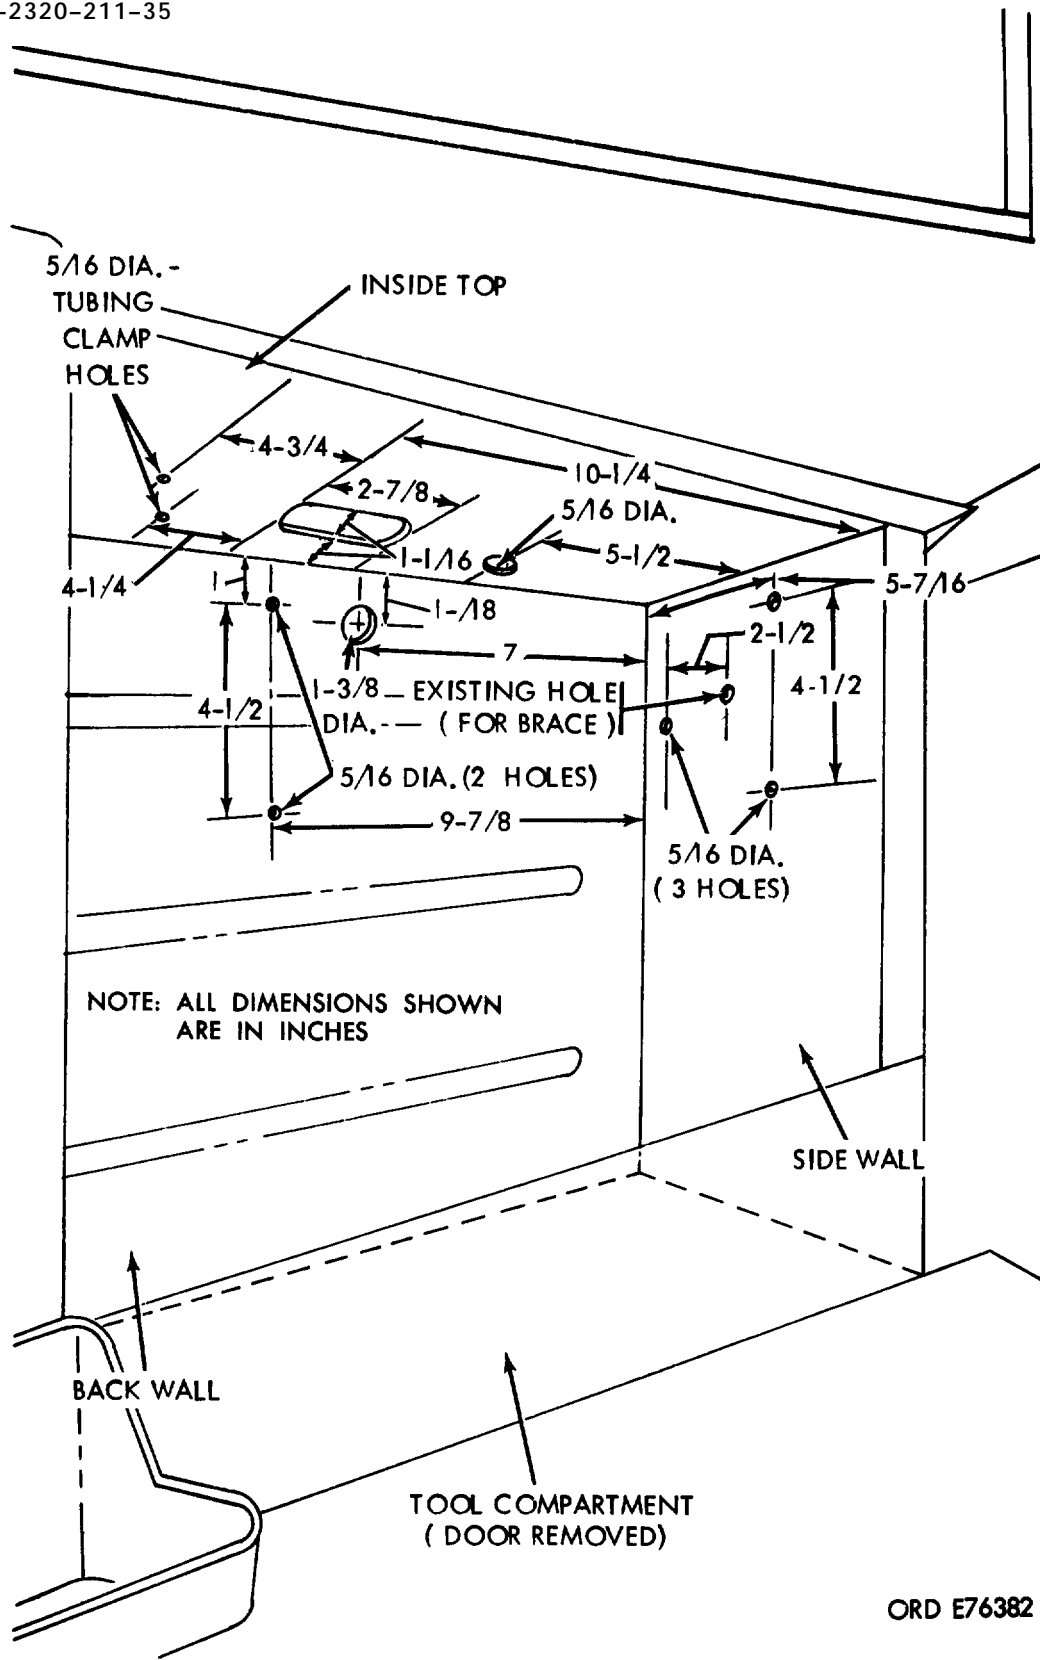

Figure 675. Fuel pump mounting and tubing layout.
- (1) Unscrew four hinge screws retaining tool compartment door (under the vehicle left door) and remove door.
- (2) Lay out location of two holes for pump shield, on back wall of compartment (Figure 675).
- (3) Punch and drill two 5/16 dia. holes located in (1) above. Prime and paint drilled holes.
- (4) Locate one 1-3/8 dia. tubing hole (for pump to coolant heater tube) in the same rear wall.
- (5) Using a Greenlee punch or hole saw, cut out 1-3/8 dia. hole located in (4) above. Prime and paint hole edge, and insert grommet MS 35489-75.
- (6) Locate three holes in tool compartment side wall as indicated in figure 675.
- (7) Center punch and drill three 5/16 dia. holes located in (6) above.
- (8) Locate one hole for pump electrical lead in top of tool box as indicated in figure 675.
- (9) Center punch and drill 5/8 dia. hole at location marked in (8) above. Prime and paint bare metal.
- (10) Lay out and scribe oblong hole in tool compartment top as indicated in figure 675.
- (11) Center punch and drill three pilot holes in oblong area so three cuts with 1-1/16 dia. hole saw (or greenlee punch) will fall within the indicated oblong.
- (12) Make three cuts as indicated in (11) above, then file off remaining metal within scribed oblong. Prime and paint bare metal.
- (13) Locate two tubing clamp holes in top of
- tool compartment as indicated in figure 675.
- (14) Center punch and drill two 5/16 dia. holes located in (13) above. Prime and paint bare metal.
- (15) Attach fuel pump 7748814 to side wall of tool compartment using one existing hole for bracket (fig. 675) and one 5/16 dia. hole drilled in (7) above. Use 1/4-28x1/2 screw (MS 96906-35292-3) and nut (MS 96906-51922-5).